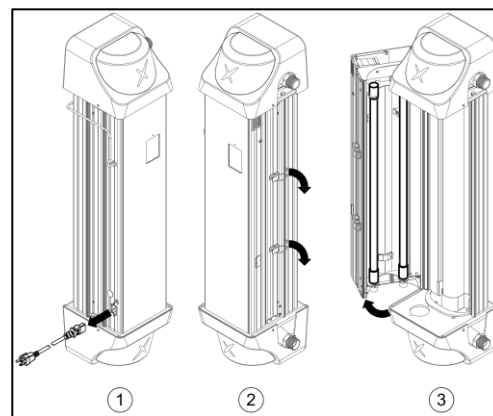

Figure 7-5
5. Install the new lamps into the unit one at a time, being careful not to touch the bulb. Insert the top end of the lamp through the top lamp holder then swing lamp base in over the socket. For a LPHO lamp, rotate it until the “Stop Sign” symbol printed on the top ceramic is towards the left. See Figure 7.5. For an amalgam lamp, rotate it until the wires running down the lamp are facing the back of the unit – a check mark has been added to the top ceramic on same side as the wires. The proper orientation of the LPHO and amalgam lamp has the lamp wires opposite the UV sensors.